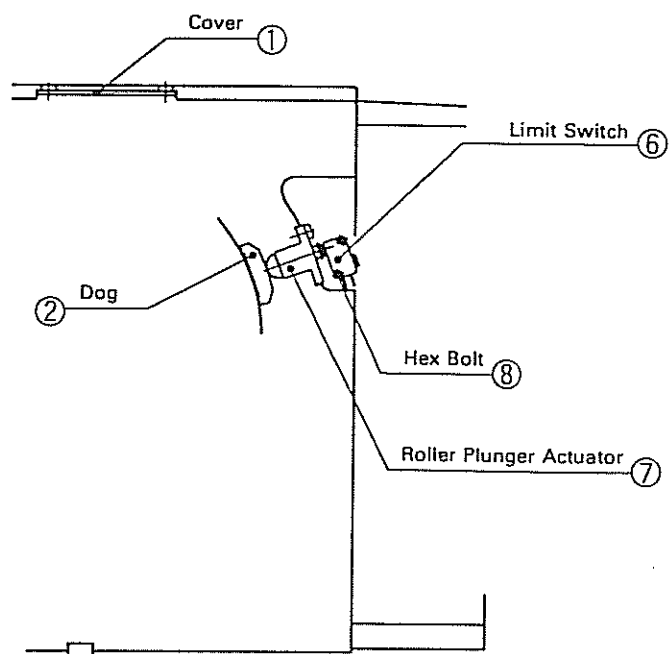

Fig. 4
8-2 Dog Position Adjustment (See Fig. 4 & 5)
- 1) Proximity Switch (See Fig. 4 & 5)
- 2) Limit Switch (See Fig. 4 & 5)